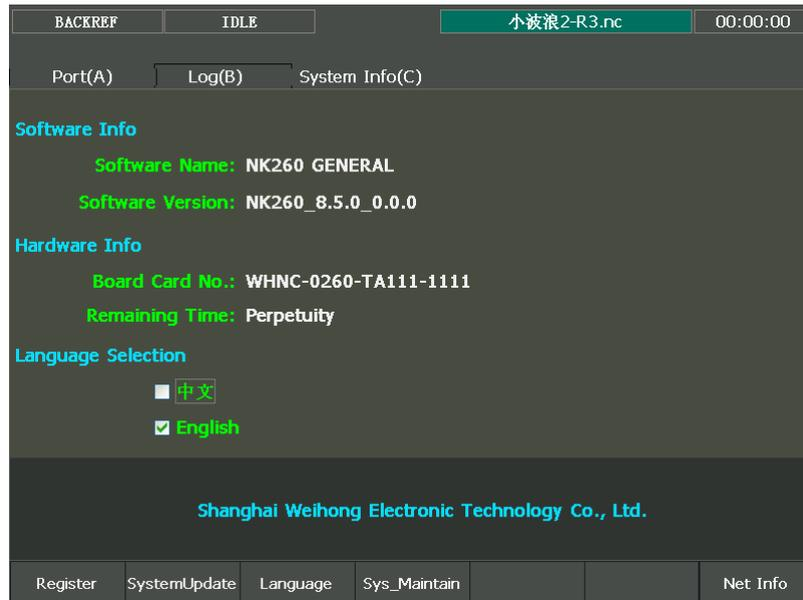

Fig. 3-54 System info screen
As shown in Fig. 3-54, view the related information (including CNC software information and CNC hardware information) of NcStudio in [System Info (C)] screen of [System] function section. Pressing letter key C will enter [System Info] function screen.
- 1) Learn the info of board card no. in [System Info (C)] of [System]. See Fig. 3-54.